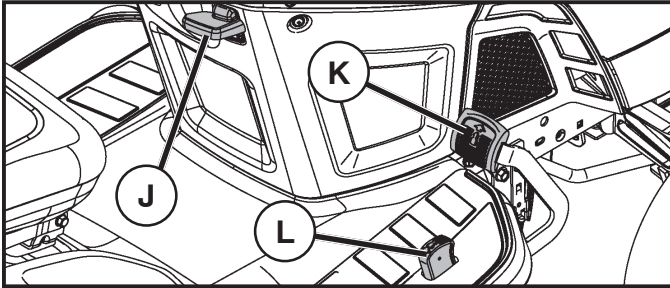

Fig. 7
(See Fig. 7)
## TO USE CRUISE CONTROL (J) (See Fig. 7)